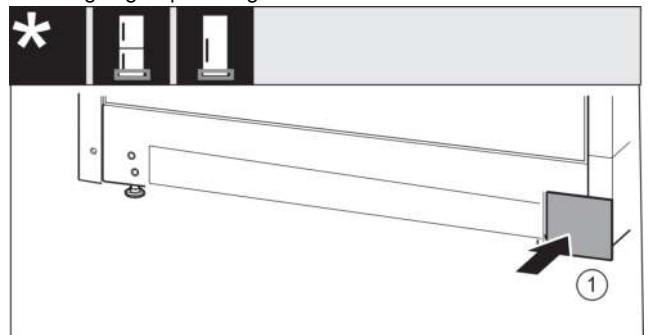

Fig. 37
- ▶ Put the cover back on the other side. *Fig. 37 (1)*